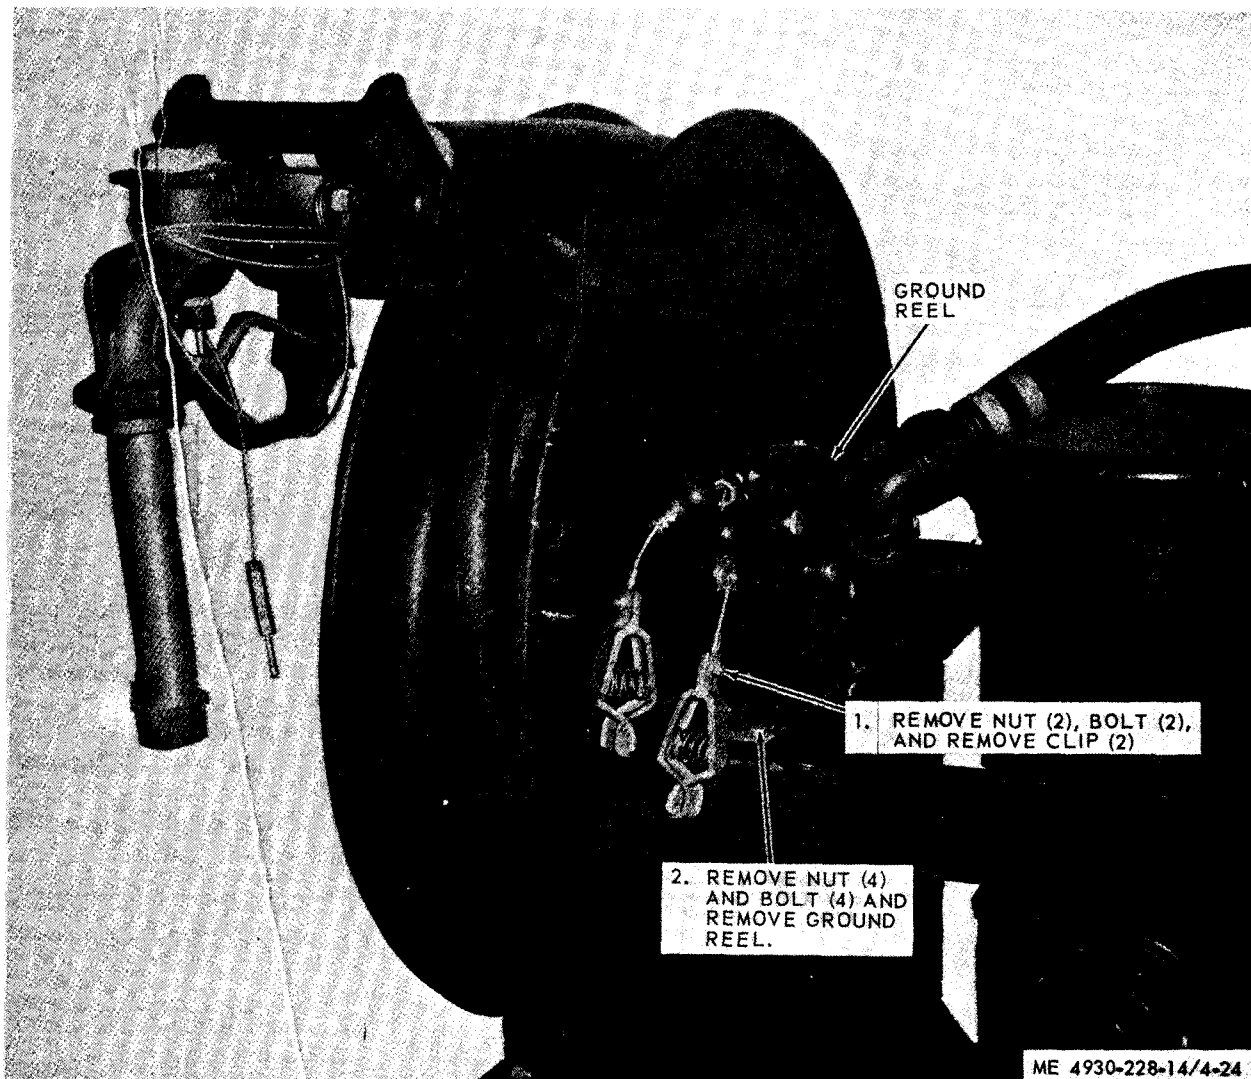

Figure 4-24. Ground reel, removal.
b. Removal. Refer to figure 4-24 and remove the ground reel.
- (1) Clean the ground reel thoroughly.
- (2) Inspect the outside of the ground reel for dents, distortion, and other damage.
- (3) Inspect the rubber cable stops for torn or broken rubber balls.
- (4) Inspect the clips for broken springs.
- (5) Pull out the cables and inspect for frayed, abraded, broken, and rusty areas.
- (6) Replace a defective ground reel.
- d. Installation.* Refer to figure 4-24 and install the ground reel in reverse order of removal.